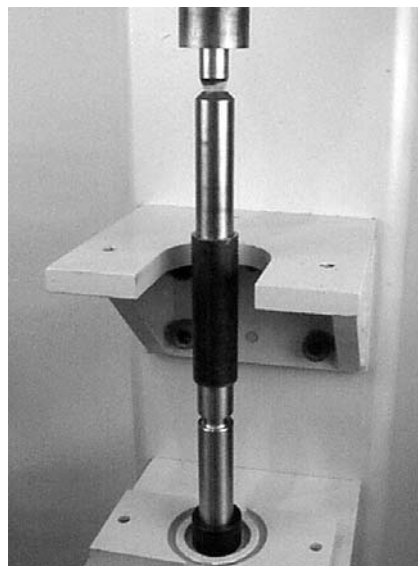

Figure 47
- Using arbor press or similar device, press bearing onto pulley shaft (see Figure 47).